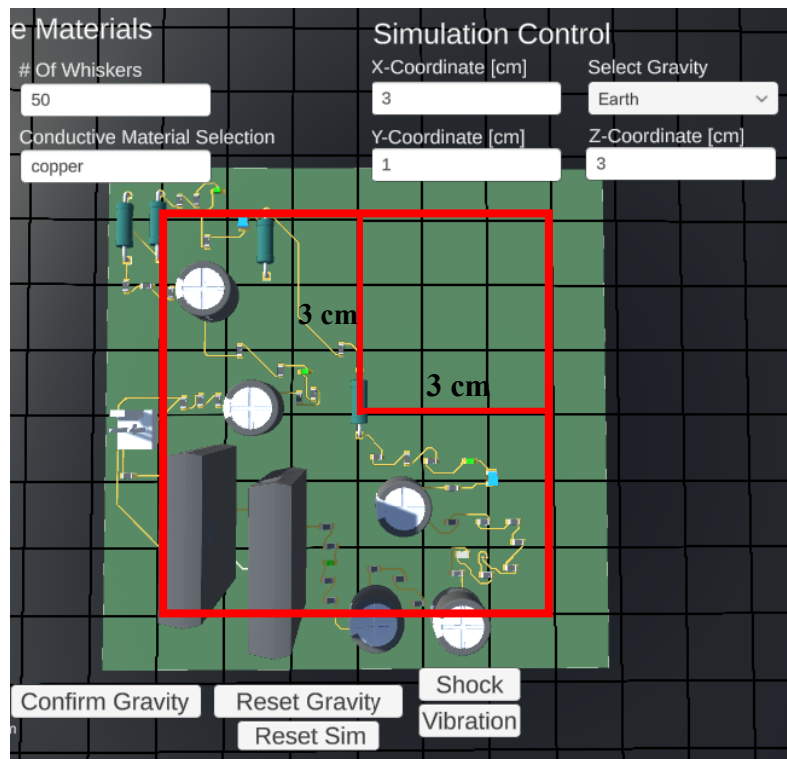

Figure 19: Whisker Spawning Location
a. The spawning locations can now be set using the coordinate system. This system works by effectively creating a cube that the whiskers can spawn into. When a value is entered into the coordinate field, it sets the boundaries for spawning objects in both directions. For example, if you type 3 into the coordinate field for the x direction, the objects will be able to spawn anywhere from -3 to +3 on the x-axis, providing a total span of 6 centimeters. Similarly, the same applies to the y and z directions if values are entered for those fields. This allows PCBs of any size to be effectively covered by whiskers. Figure 19 demonstrates this: